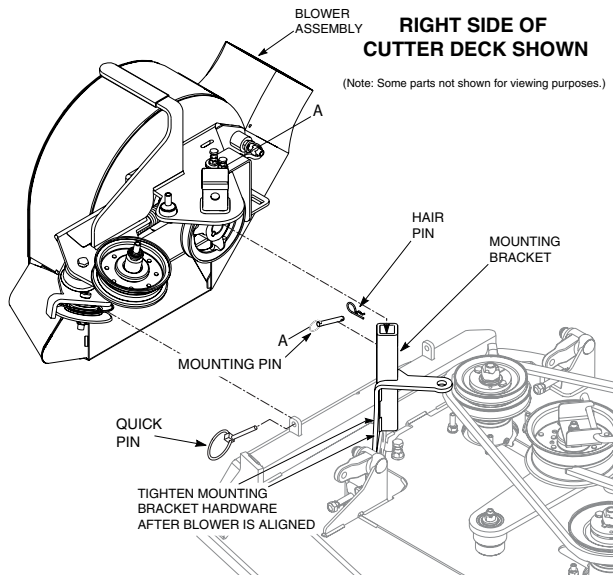

Figure 2-8. Blower Installation
12. Install the blower assembly to the mounting bracket and secure with the mounting pin. See Figure 2-8.
13. Align the blower assembly with the discharge opening of the cutter deck. Tighten the hardware for the mounting bracket. See Figure 2-8.
14. Install the quick pin through the hole in the front discharge chute mounting bracket. See Figure 2-8.